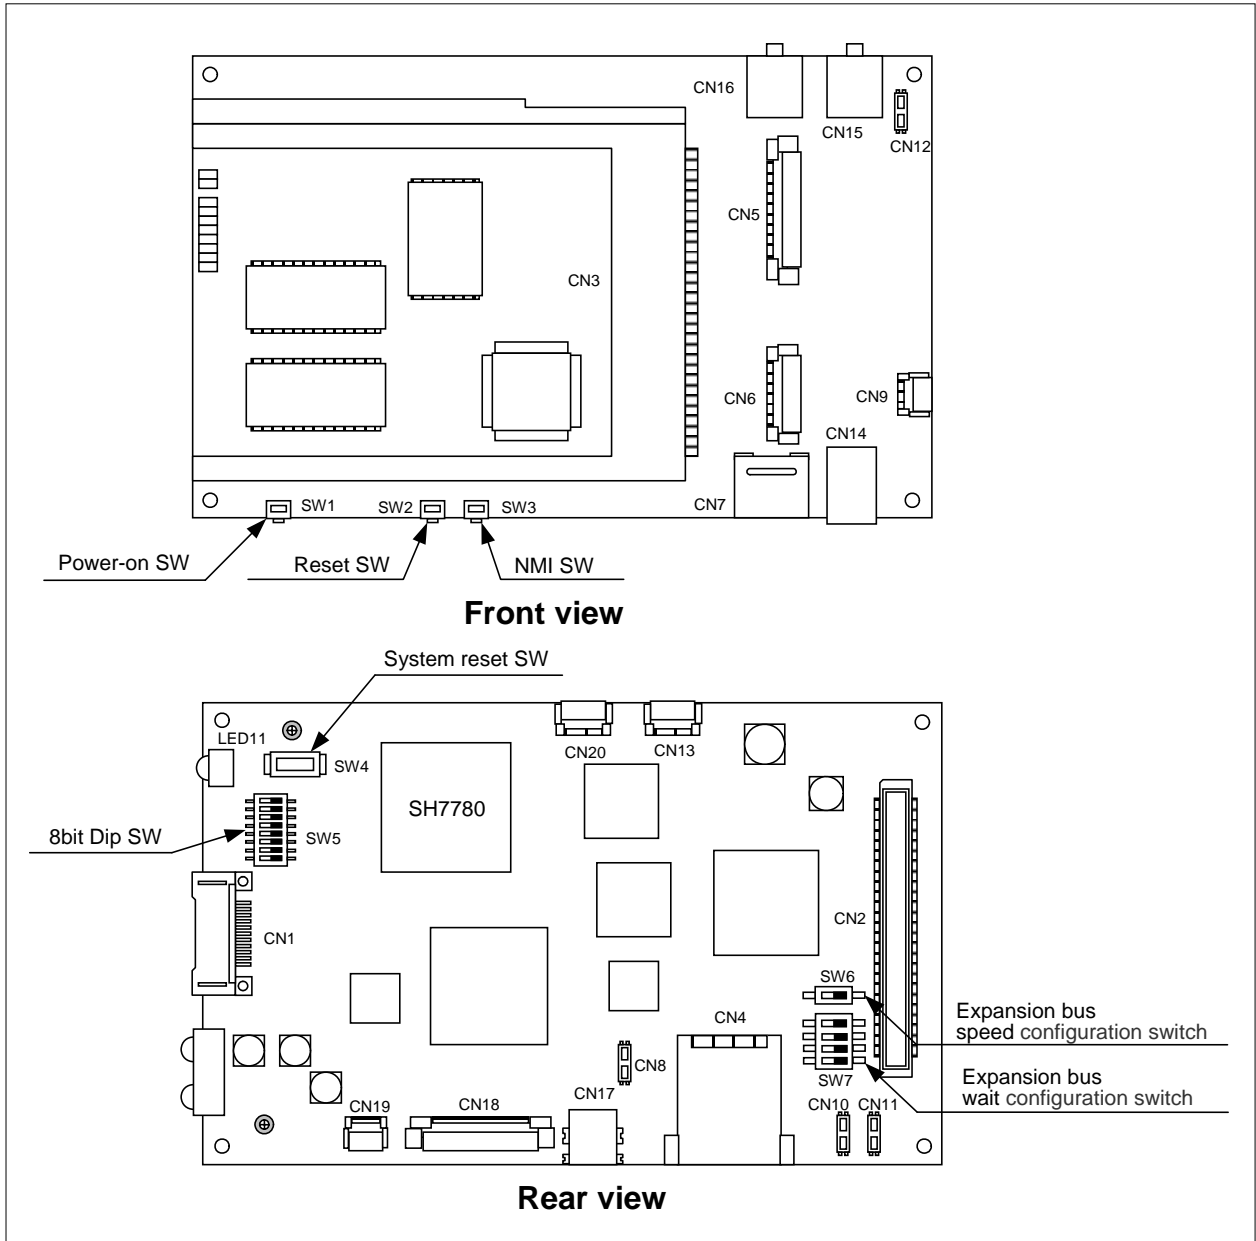

Figure 3.1 CPU Board Switches (SW1 to SW7)
Figure 3.1 shows the location of the switches (SW1 to SW7) on the CPU board. In addition, this section gives a brief description of each switch in (1) to (7).